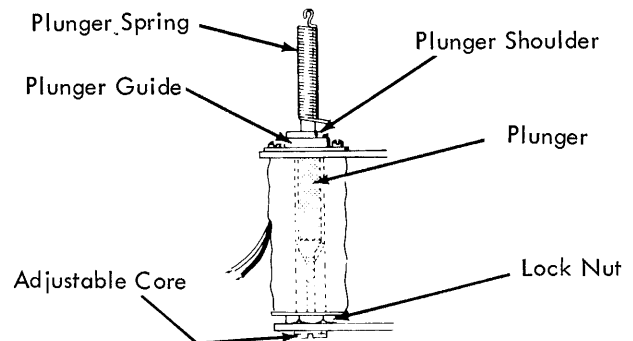

FIGURE 55. Solenoid
1. Solenoid (Fig. 55) - Adjust as follows:
- b. With the plunger engaged, screw adjustable core "in" until the plunger shoulder begins to lift off the plunger guide, then back off $1/2$ turn (Fig. 55).